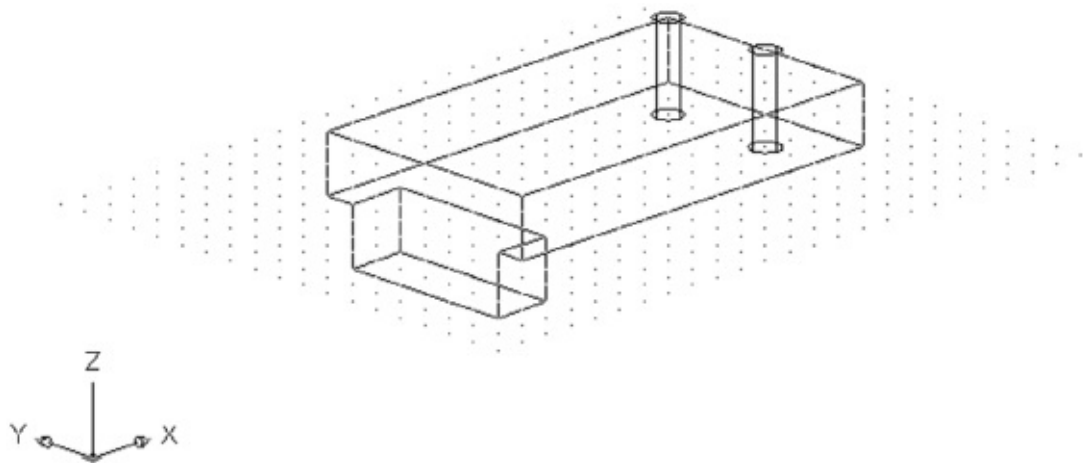

FIGURE 22.6 The cylinders appear when the Cylinder layer is turned on.
1. Turn on the layer called Cylinder. Two cylinder solids appear in the model, as shown in Figure 22.6. These cylinders are 1.5 units tall.